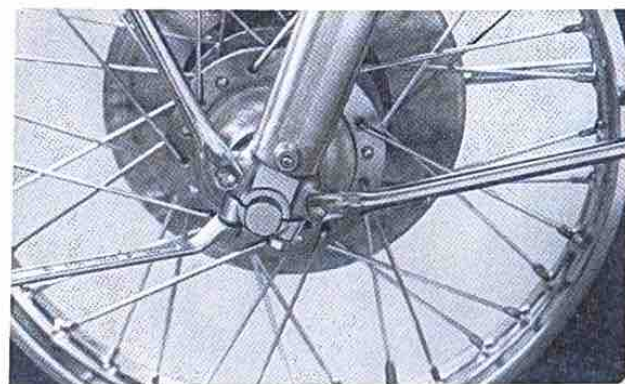

Fig. 20
13. Tighten the two axle holder nuts with specified torque. (Fig. 20)